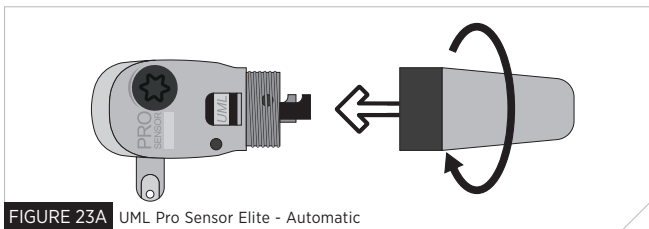
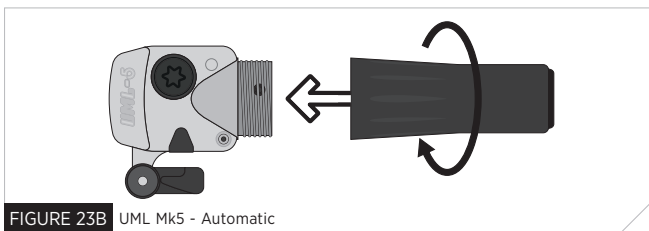

FIGURE 23A UML Pro Sensor Elite - Automatic
FIGURE 23B UML Mk5 - Automatic
3. Screw the new automatic firing capsule onto the inflation mechanism in a clockwise direction. (For UML Pro Sensor Elite see Fig 23A; For UML Mk5 Automatic see Fig 23B). The bottom status indicator will turn green when the capsule is correctly fitted.